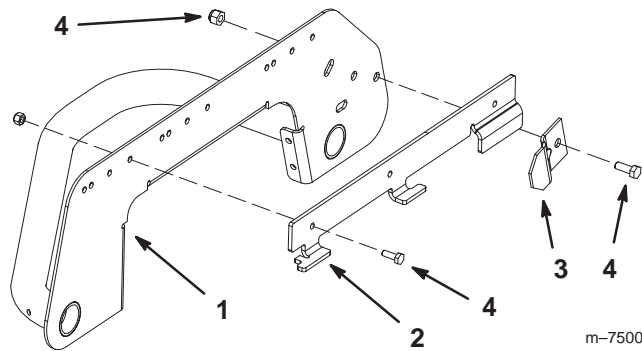

Figure 27
3. Install the existing mounting bracket and bracket clamp to the new mounting plate (Fig. 27).